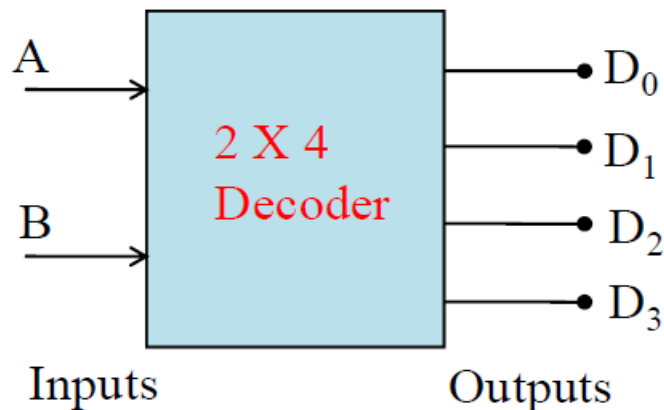

Fig. 2
- Block diagram of 2 to 4 decoder is shown in fig. 2